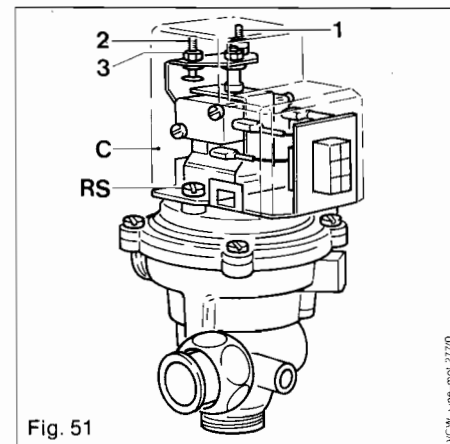

Fig. 51
Unscrew two retaining screws (RS, Fig. 51) securing complete microswitch assembly. Remove complete assembly.
14.6.3.1 Change of diverter valve stuffing box (Fig. 51)